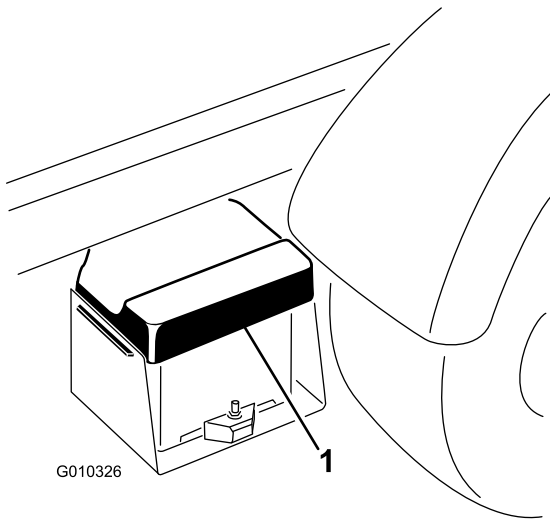

Figure 41
1. Squeeze the battery cover to release the tabs from battery base. Remove the battery cover from the battery base (Figure 41).